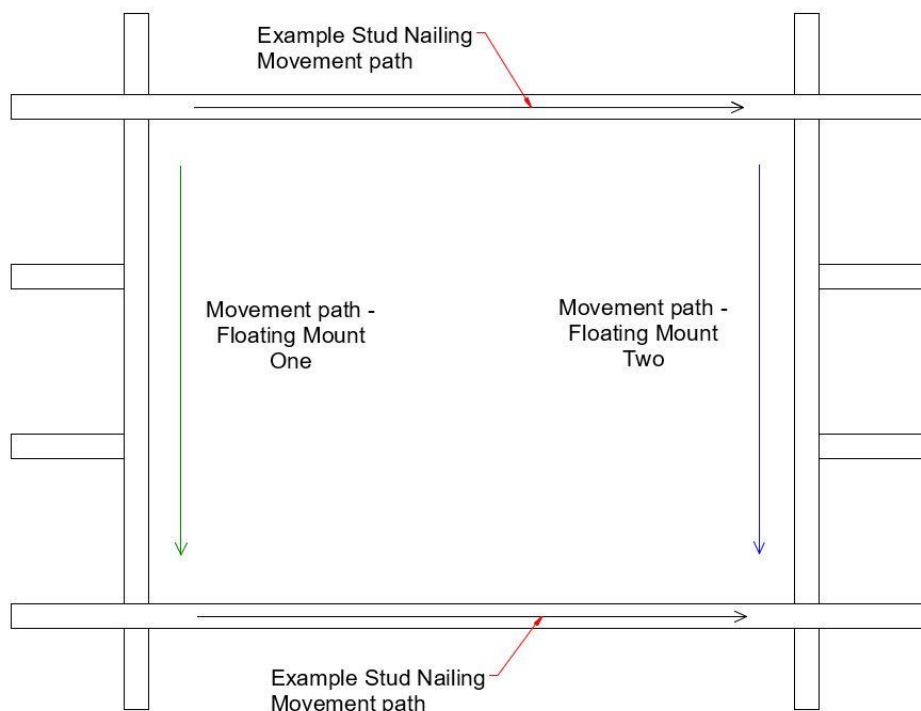

Figure 7, Example nailing of window
- **If a window is being nailed**, the Floating gun mounts move around the window so that the sheet can be nailed to both the studs and plates around the window. The window position is pre-programmed into the computer software, so that the Floating Gun mounts can nail around the window while continuing to nail around the rest of the frame. Figure 7 shows a basic example of how the Floating Gun mounts would nail the window. First the stud at the top of the window is nailed; then both gun mounts nail down the plates, one on either side; finally, the stud at the bottom of the window is nailed.